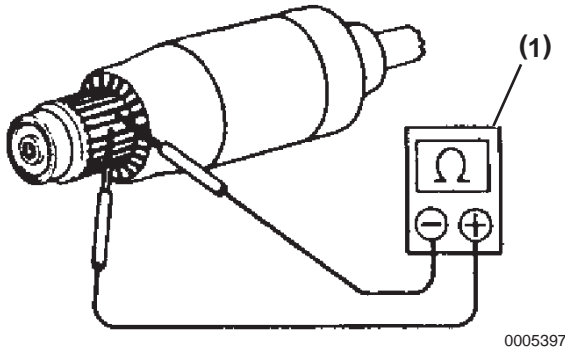

Figure 10-10
1. Using an ohmmeter (**Figure 10-10, (1)**) check the commutator for continuity between the commutator segments. If segments are electrically open, replace the armature.